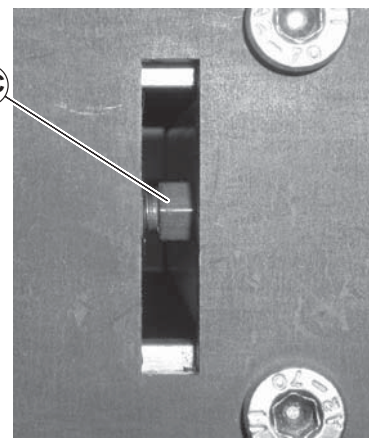

Figure 49
2. With the conveyor running, use wrench (Figure 48, item CB) to rotate the tracking screw (Figure 49, item CC) in small increments until the belt tracks in the center of the conveyor.